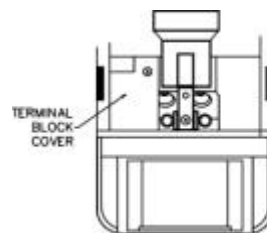

FIGURE 7a
- (4) The terminal block is put in a cavity beside the bulb holder. Remove the terminal block cover by unscrewing the screw from the terminal block cover and take out the terminal block from the cavity for wire connection. (FIGURE 7a & 7b).